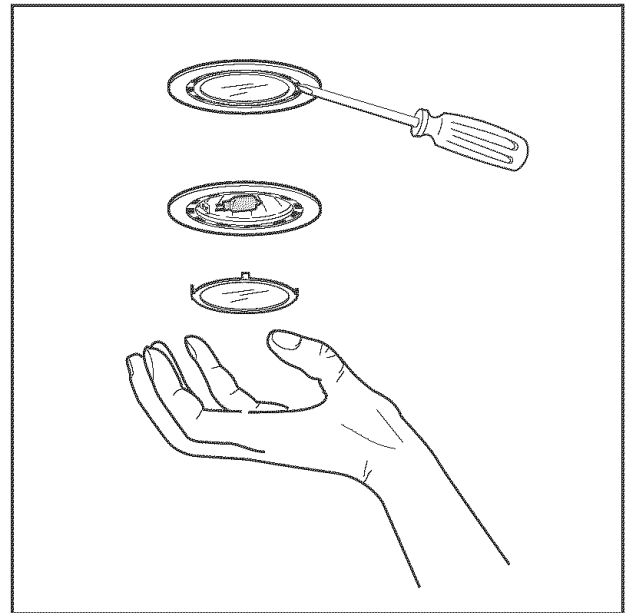

Figure 5
- Using a flat edge from a screwdriver or equivalent tool, pry loose the lens cover as shown in Figure 5.